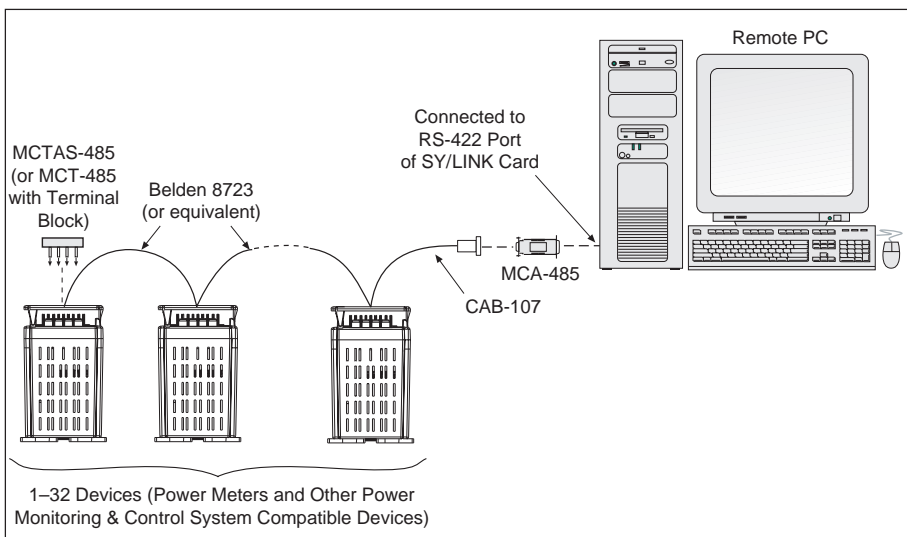

Figure 6-1: Power meters connected to a personal computer via SY/LINK card
Figures 6-1 through 6-3 show power meters (other PM&CS-compatible devices can be substituted) connected in typical systems. The accompanying text describes important considerations for each connection alternative.
- Connect up to 32 PM&CS devices to a personal computer (figure 6-1). See **Length of the Communications Link** in this chapter for distance limitations at varying baud rates.
Figures 6-1 to 6-4 show the terminator applied in typical systems.